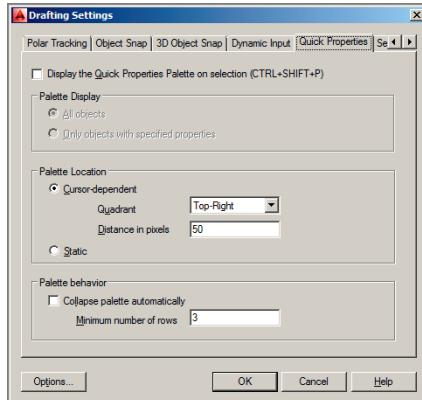

FIGURE 6.9 Drafting Settings dialog box
1. Type **DS**, and press Enter. Select the Quick Properties tab of the Drafting Settings dialog box and uncheck **Display The Quick Properties Palette On Selection** (see Figure 6.9). Click OK.